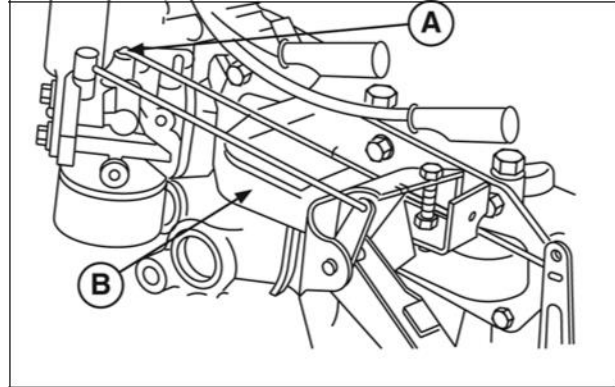

Figure 33
9. Install intake manifold with new gasket. Install governor link and spring (Figure 33). Torque screws to values listed in Section 14 - Engine Specifications.